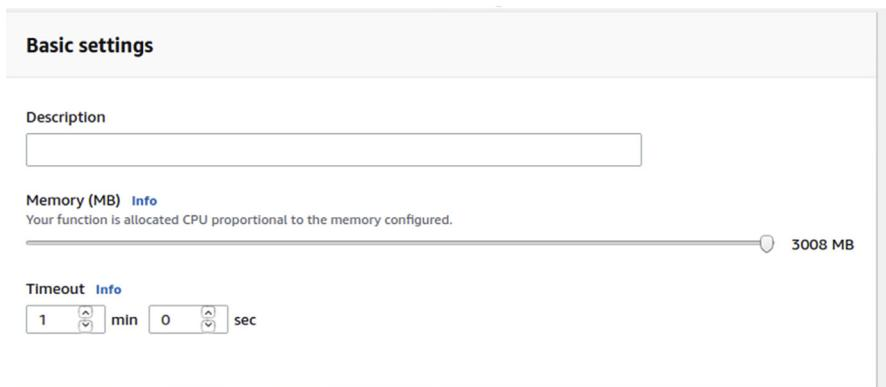

Figure 10.72 Memory size and timeout options for lambda function.
18. Next, click on dc_motor_digital_twin in the Designer area and scroll to the Basic settings area shown in Fig. 10.72. Increase the Timeout to 1 min and the Memory (MB) to 3008 MB or to the maximum limit. The reasoning is because the lambda function takes some time to run (approximately 30–40 s). However, the lambda function triggers can run concurrently. As in, when the DC motor data are sent as a trigger to AWS Lambda, it will execute the function each time a trigger is sent without waiting for the previous trigger to end. Each execution will take about 30–40 s after which an email notification will be sent according to the AWS SNS service.